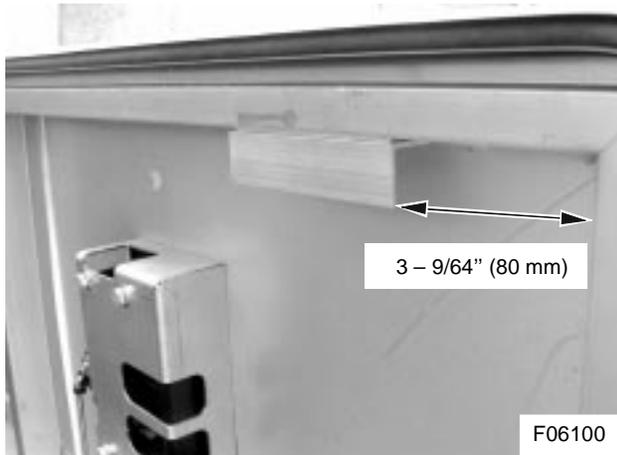

Figure 50: Roller arm guide installation dimensions
- 12) Install the roller arm guide on the door frame referring to dimensions in Figure 50. Drill two 4,5 mm holes and secure the bracket with rivets VH 660611600.